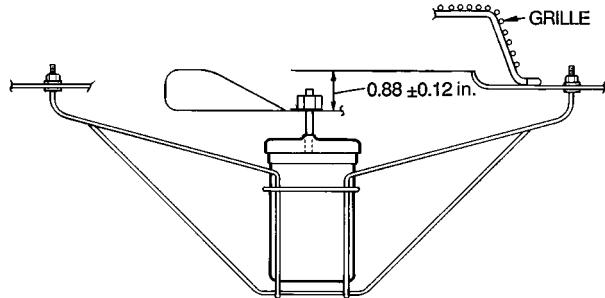

Fig. 36 — Condenser-Fan Adjustment
4. Adjust fan height on shaft using a straightedge placed across venturi and measure per Fig. 36.